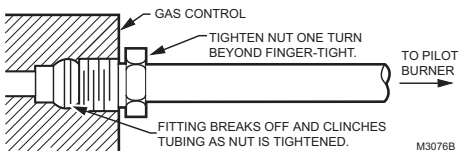

Fig. 6. Always use new compression fitting
4. Push tubing into the pilot gas tapping on the outlet end of the control until it bottoms. While holding tubing all the way in, slide compression fitting into place, engage threads and turn until fitting tight. Then tighten one more turn with wrench. Do not overtighten. Refer to Fig. 6.